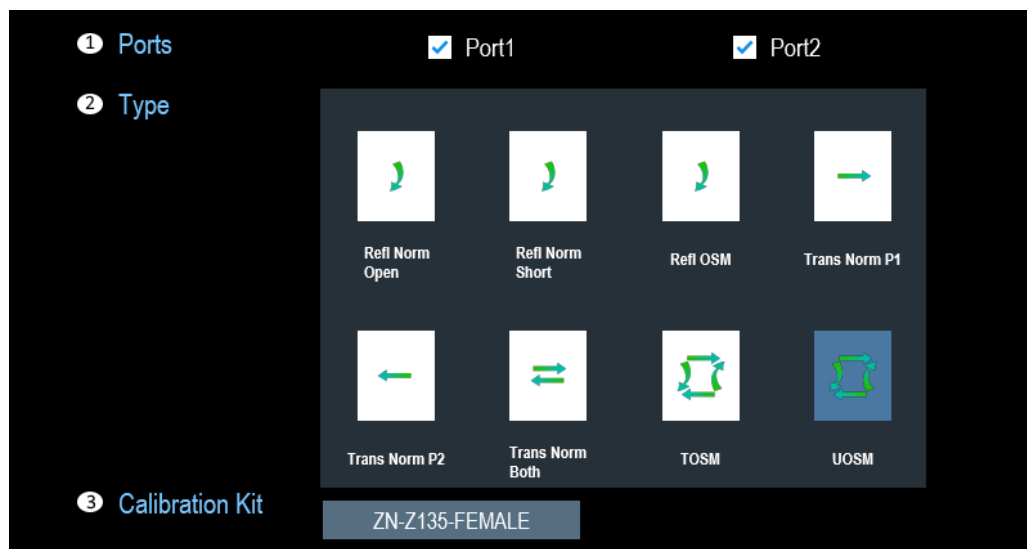

Figure 8-2: Calibration configuration dialog
- UOSM can be selected explicitly in Figure 8-2.